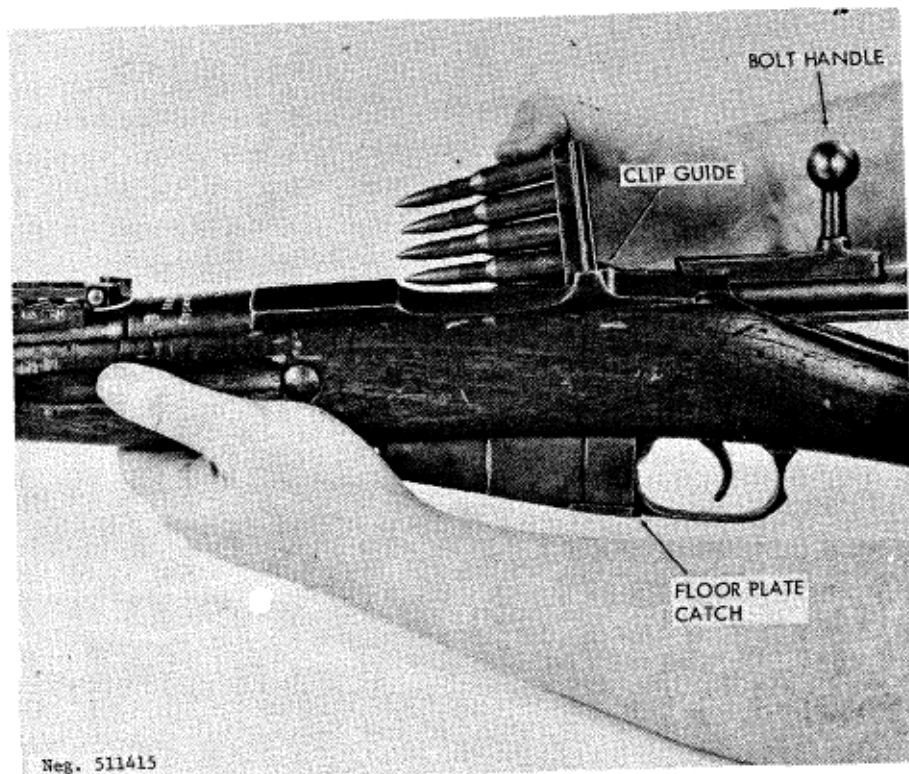

Figure 115. Loading the M1891 or M1944 rifle.
a. Open the bolt by turning the bolt handle to the vertical position (fig 115); then pull the bolt fully to the rear. Load the magazine by one of the actions listed below:
(1) Insert a 5-round stripper clip into the clip guides in the receiver (fig 115) and press the cartridges from the clip into the magazine.
(2) Place individual cartridges in the receiver and press them down into the magazine until they are caught by the interrupter. Be sure that the rim of each cartridge, as it is loaded, is ahead of the rim of the preceding cartridge.
g. To unload or clear these weapons, open the bolt (a above) and release the floorplate catch (fig 115) by pressing it to the rear. The floorplate and the magazine platform will swing out of the magazine, along with any cartridges. Inspect to insure that no cartridges remain in the chamber or magazine, then swing the floorplate back into position, close the bolt, and press the trigger.
(1) Clear the weapon (para 131g).
(2) Open the bolt, press the trigger, and, while holding it, pull the bolt out of the rifle.
(3) Open the magazine by pressing the floorplate catch (fig 115) to the rear and swinging the floorplate down. Squeeze the magazine platform against the floorplate and pull the floorplate away from the magazine.
(4) No further disassembly is necessary or desirable.